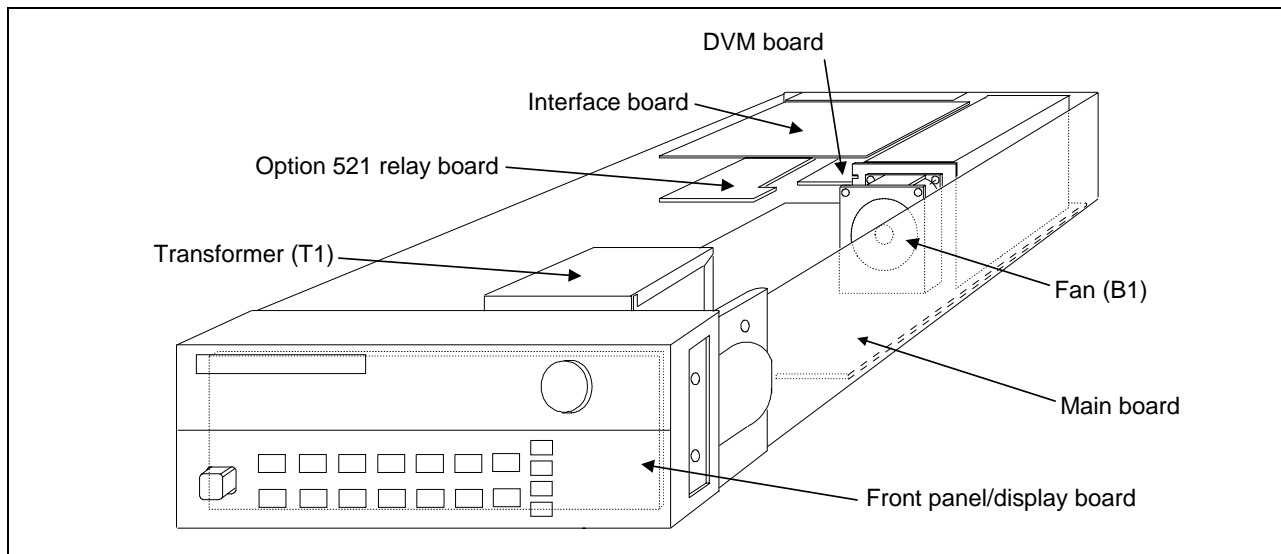
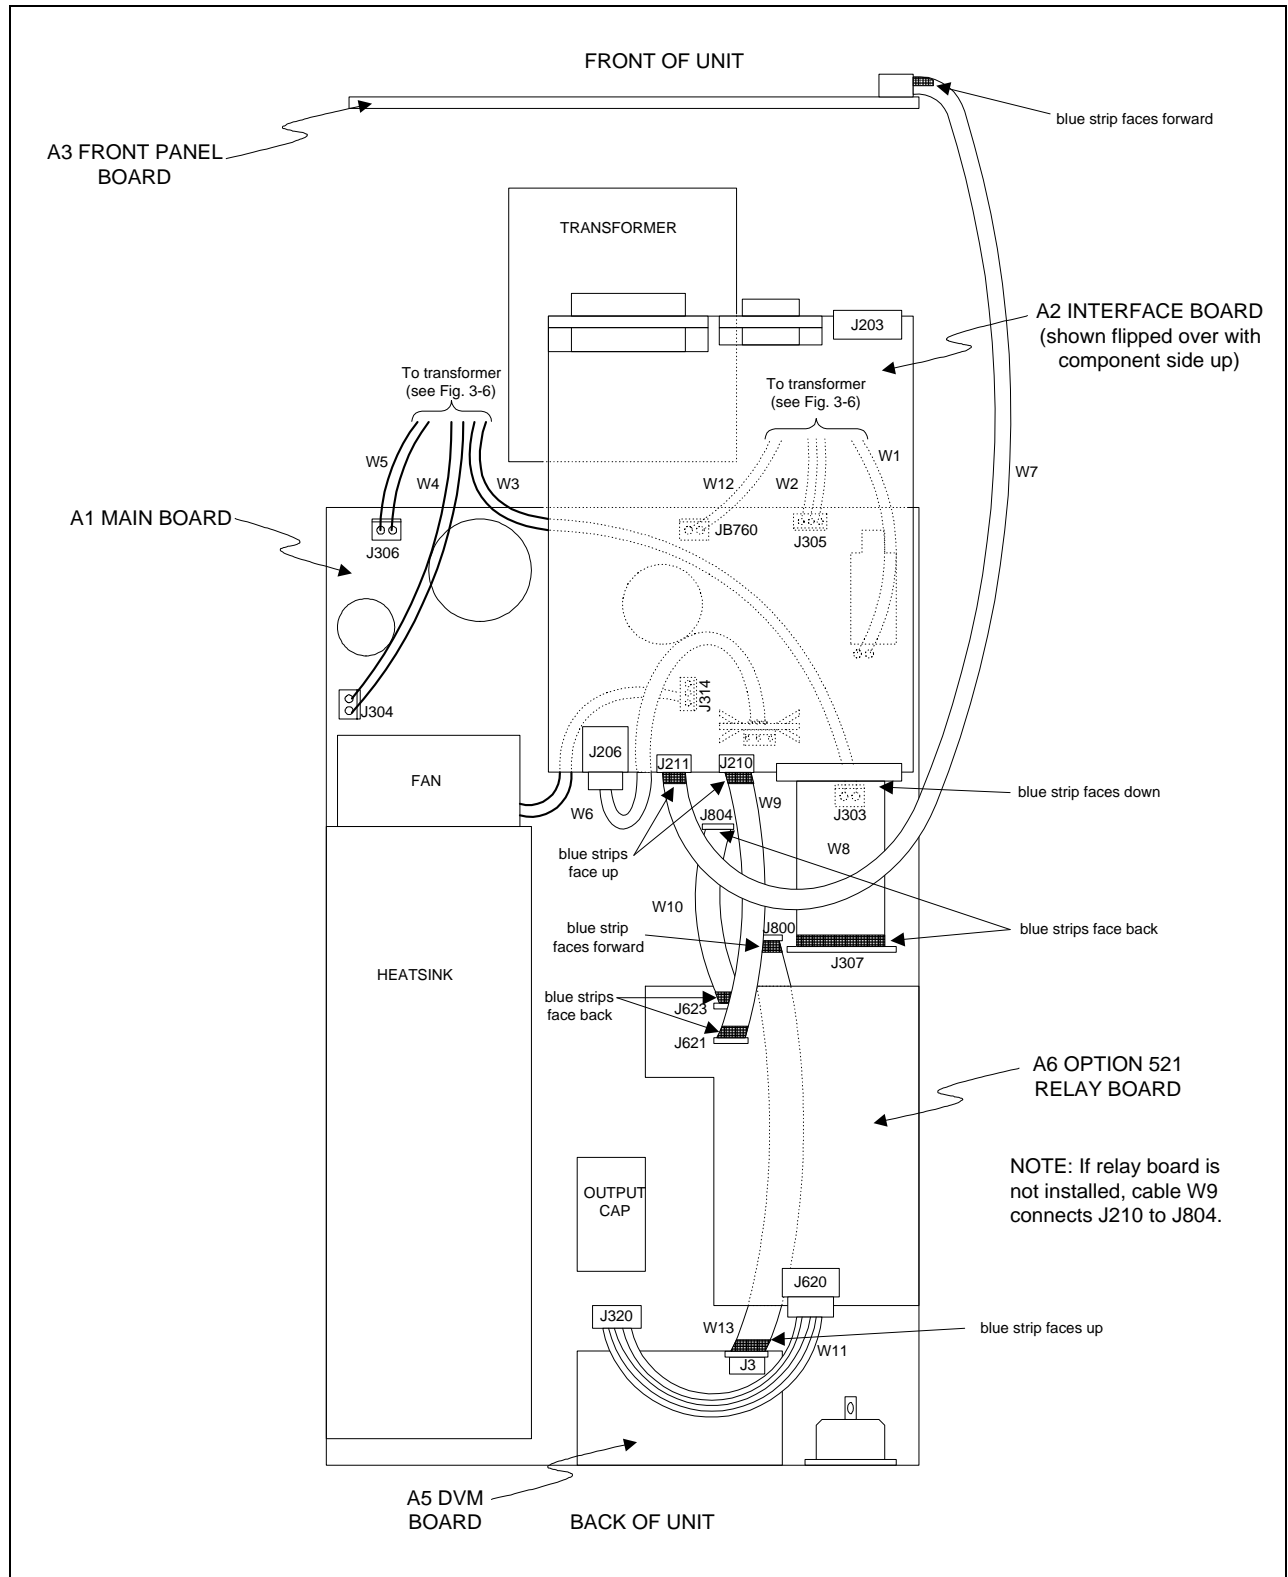
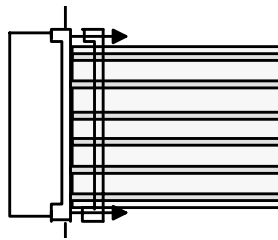

Figure 3-3. Component Location
Figure 3-4. Cable Locations
Figure 3-5. Cable Release
Figure 3-3 shows the location of the major components of the unit. Note that not all boards are included with every model. Figure 3-4 shows the location of the cables that interconnect all of the boards. This figure shows only the boards, not the chassis of the unit.
- Unplug the ribbon cables. Note the position of the blue conductive side for reinstallation as shown in figure 3-4. Release the cable by pulling out the end tabs as shown by the arrows in figure 3-5.
- c. Once the board is free, you can remove the ribbon cable (see figure 3-5).
- c. Unplug the ribbon cables. Note the position of the blue conductive side for reinstallation as shown in figure 3-3. Release the cable by pulling out the end tabs as shown by the arrows in figure 3-5.
- c. Unplug the ribbon cable from the DVM board. Note the position of the blue conductive side for reinstallation as shown in figure 3-4. Release the cable by pulling out the end tabs as shown by the arrows in figure 3-4.
NOTE: Be sure to note the position and orientation of all cables prior to removal so that no mistake is made when reinstalling these cables (see figure 3-4).